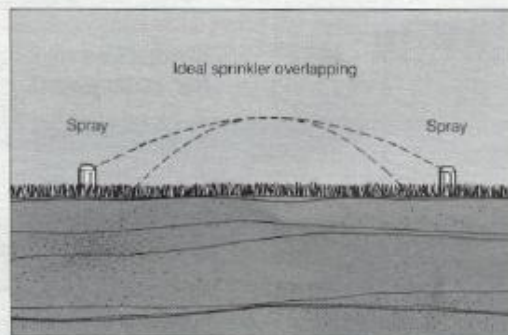

Figure 3: Ideal sprinkler overlapping.
- (1) Do not mix low gallonage sprinklers with standard gallonage sprinklers. Low gallonage sprinklers may be useful in homes of limited water flow.
- (2) Spacing less than minimum distance is okay, but sprinkler will throw further and may wet house, street, sidewalk or some other area.
4. Position the sprinkler heads, staying within the allowable spacing range as shown in Table III and Figure 3. Going below the minimum results in flooding; exceeding the maximum produces dry spots.